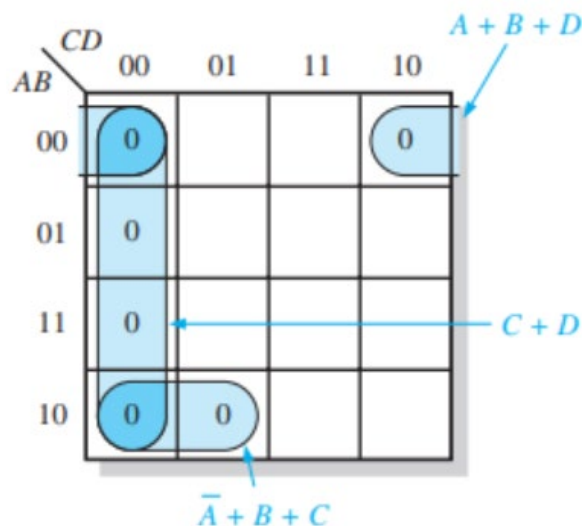

Figure 4.22: Example of mapping a standard POS expression on a K-Map and Grouping the 0's
**Solution:** The first term must be expanded into  $A+B+C+D$  and  $A+B+C+D$  to get a standard POS expression, which is then mapped; and the cells are grouped as shown in **Figure 4.22**. The sum term for each group is shown and the resulting minimum POS expression is